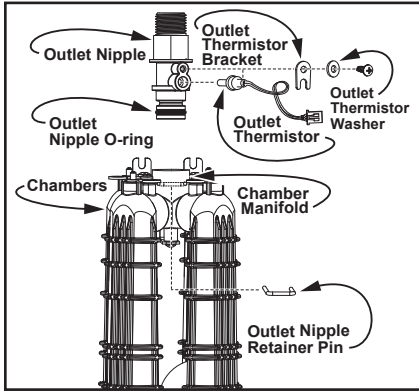

Figure 45 - Disassembling and removing the outlet nipple
**1** Locate and remove the screw and washer securing the outlet thermistor bracket to the outlet nipple. Remove the outlet bracket. Gently pull out the outlet thermistor with O-ring from the outlet nipple. See Figure 45.
**2** Using a flat head screwdriver and/or needle nose pliers, locate and remove the retainer pin securing the outlet nipple to the chamber manifold. See Figure 45.
body of the outlet nipple. The outlet nipple can be rotated after the retainer pin has been installed for proper alignment. See Figure 45.
**3** Reinstall the outlet thermistor with O-ring. Secure the thermistor in place with the outlet thermistor bracket. Insert the washer onto the screw and hand tighten the screw into place. DO NOT over tighten. See Figure 45.